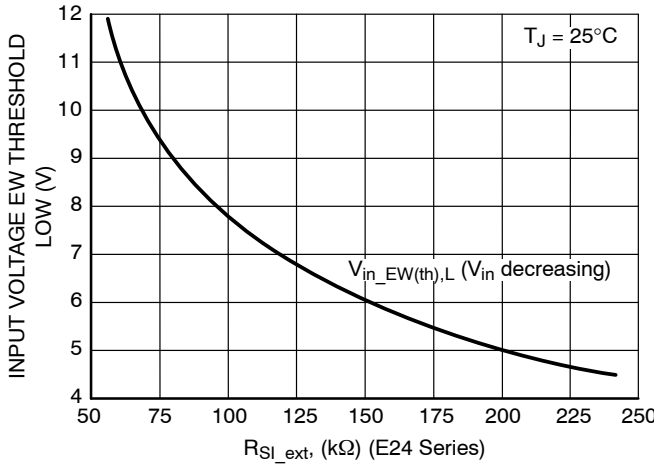
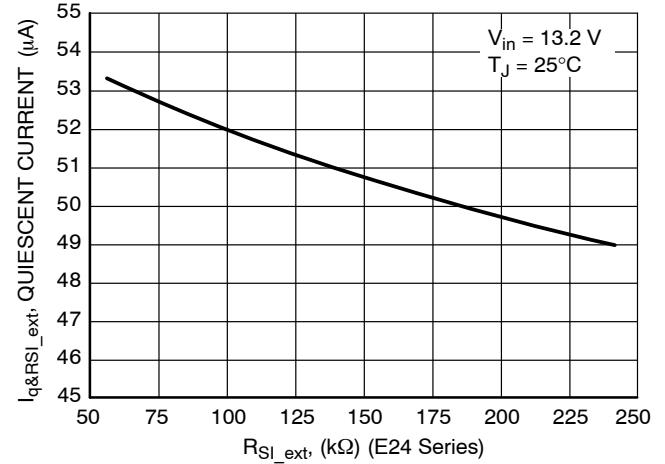

Figure 26. Input Voltage EW Threshold Low vs.
Figure 27. Quiescent Current vs. R_{SI_ext}
13. I_q for Preset EW Threshold Options is measured when R_{SI_ext} is not used. For typical values of I_q vs R_{SI_ext} see Figure 27.
Practically only preset options above 4.5 V can be used without R_{SI_ext} due to minimum operating input voltage value limitation. For other preset options the trip point has to be adjusted externally using R_{SI_ext} resistor connected between input monitor SI and GND (see Figure 1). For other preset options R_{SI_ext} has to be used to achieve $V_{in_EW(th)} > 5.5$ V (minimum operating input voltage value). The value for R_{SI_ext} is recommended to be selected in range from 50 k Ω to 250 k Ω and the trip point can be shifted according to Figure 26. In case of R_{SI_ext} values higher than 200 k Ω two resistors in series could be used in order to eliminate leakage current of the resistor and hence ensure precision of its resistance value. The higher is R_{SI_ext} the lower is overall Quiescent Current of the application (see Figure 27). General formulas for calculation of $V_{in_EW(th)Low}$ or R_{SI_ext}
The Sense Output is from an open drain driver with an internal 30 k Ω pull up resistor to V_{out} . Figure 26 shows the SO Monitor timing waveforms as a result of the circuit depicted in Figure 1. If the input voltage decreases the output voltage decreases as well. If the SI input low threshold voltage is crossed it causes the voltage on the SO output goes low sending a warning signal to the microprocessor that a reset signal may occur in a short period of time. TWARNING is the time the microprocessor has to complete the function it is currently working on and get ready for the reset shutdown signal.